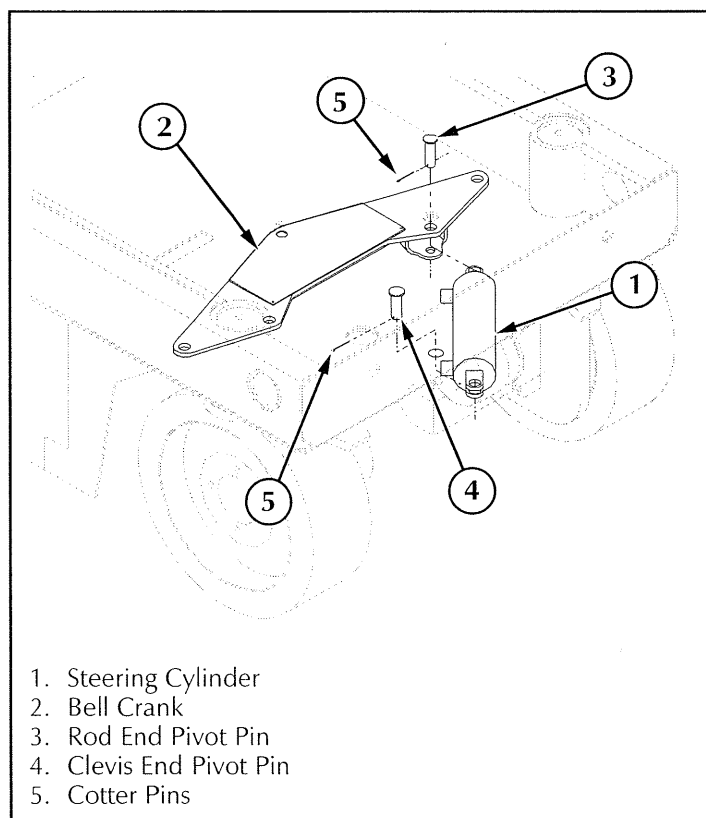

Figure 4-14: Steering Cylinder Installation
4.11 Steering Cylinder (Figure 4-14)